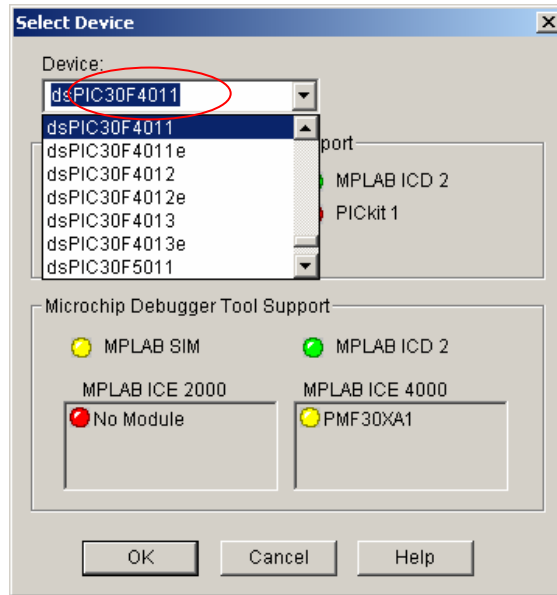

Figure 5: Selection of the device
2. In the option *Select Device* of the menu *Configure*, select the device of your system. (see Figure 5).